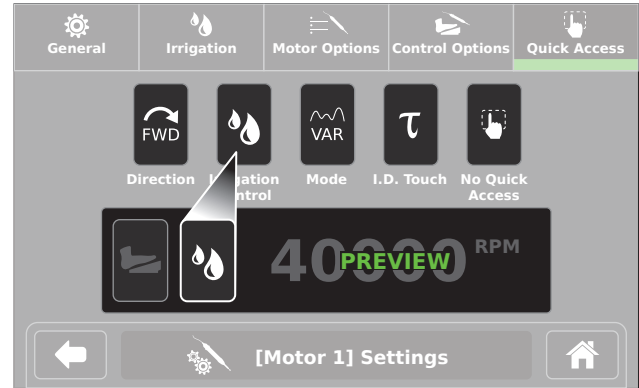

Figure 27 – Quick Access Menu Tab
Quick Access	<p>Use this menu tab to set direction, irrigation, mode, or I.D. Touch (torque) to be accessible from the Home screen.</p> <p>Choosing the No Quick Access option will remove the quick access button from the Home screen.</p> <p>The PREVIEW area displays a glimpse of the quick access area on the Home screen (Figure 27).</p>
**NOTE:** In Figure 27, the Irrigation Control option was touched and appears in the PREVIEW area.